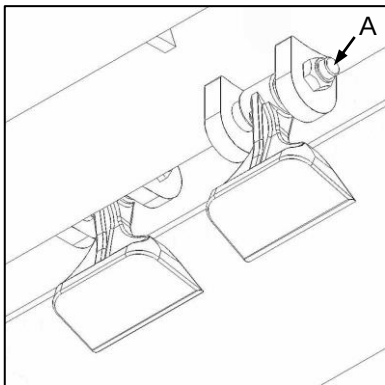
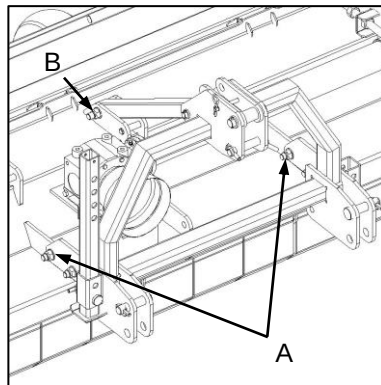
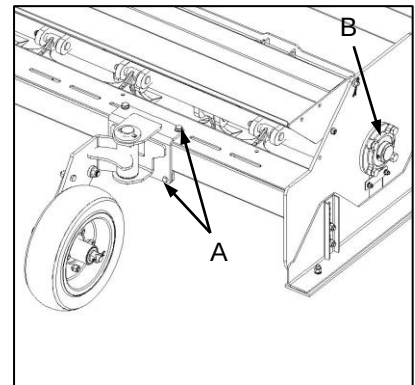

Fig. 4
Fig. 5
Fig. 6
- ✓ Check all fasteners for tightness. Pay special attention to safety-critical fasteners such as blade bolts and nuts (Fig. 4-A), hitch frame mounting bolts (Fig. 5-A / B), rotor mounting bolts (Fig. 6-A) and wheel mounting bolts (Fig. 6-B).
- ✓ Verseker dat alle hegstukke vas is. Gee spesiale aandag aan veiligheidskritieke hegstukke soos lemboute en lemme (Fig. 4-A), haakraammonteerboute (Fig. 5-A / B), rotormonteerboute (Fig. 6-A) en wielmonteerboute (Fig. 6-B).